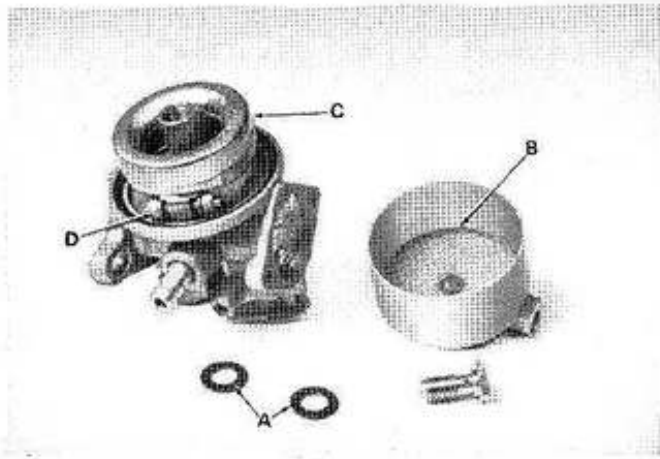

Figure 92. Float Bowl Housing Disassembly.
- d. The two 9/16" gaskets (A) located on the inside and outside of the float bowl housing must be discarded. (See Figure 92.) (Earlier vintage carburetors used three gaskets.) Replacement of these gaskets is essential each time the float bowl housing is removed. Use of old gaskets will cause a poor seal and eventually effect the final carburetor adjustment.